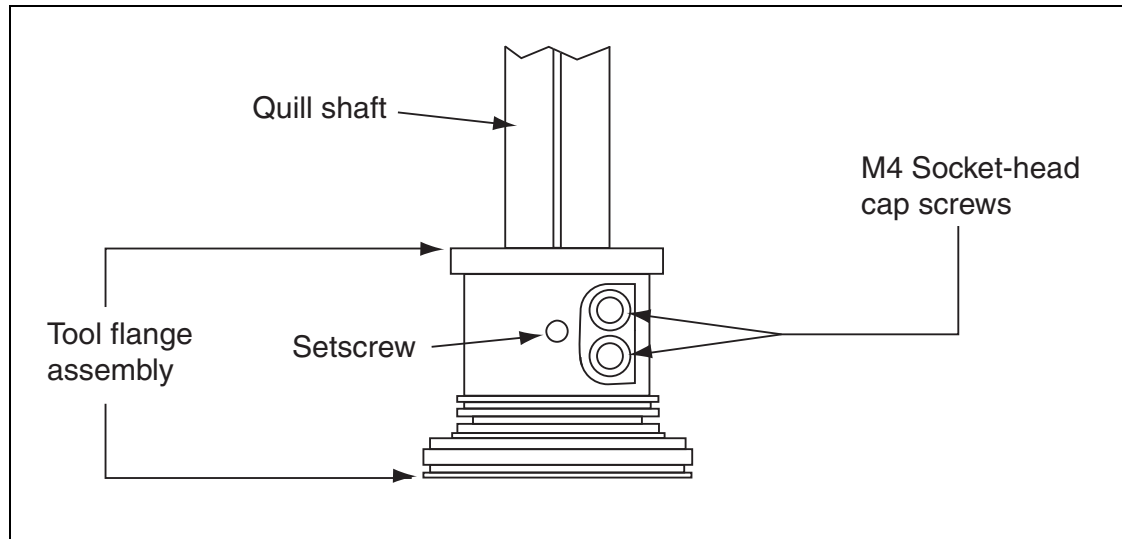

Figure 7-1. Tool Flange Removal Details
3. Use a 2.5 mm hex wrench to loosen the setscrew. See Figure 7-1. Note the vertical-spline groove that is in line with the setscrew. You must reinstall the flange in the same position.